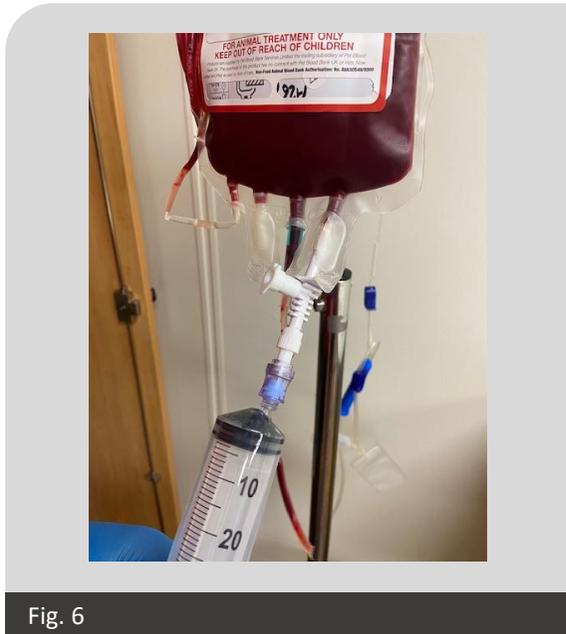

Fig. 6
- Remove the syringe from the packet, taking care not to touch the syringe luer, and push the luer into the needle-free valve with a twist, ensuring it is seated securely (Fig.6).